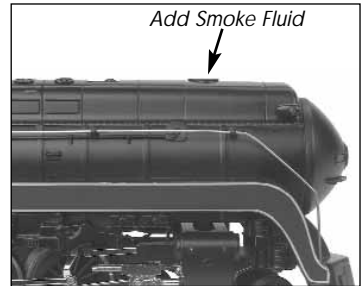

Figure 4 - Add Smoke Fluid
(See Fig. 4 on page 11)
■ When preparing to run this engine, add 15-20 drops of smoke fluid through the smokestack. (see figure 4) We recommend M.T.H. ProtoSmoke, Seuth, LGB, or LVTS fluids (a small pipette of ProtoSmoke fluid is included). Do not over fill the unit or the fluid may leak out and coat the interior engine components.